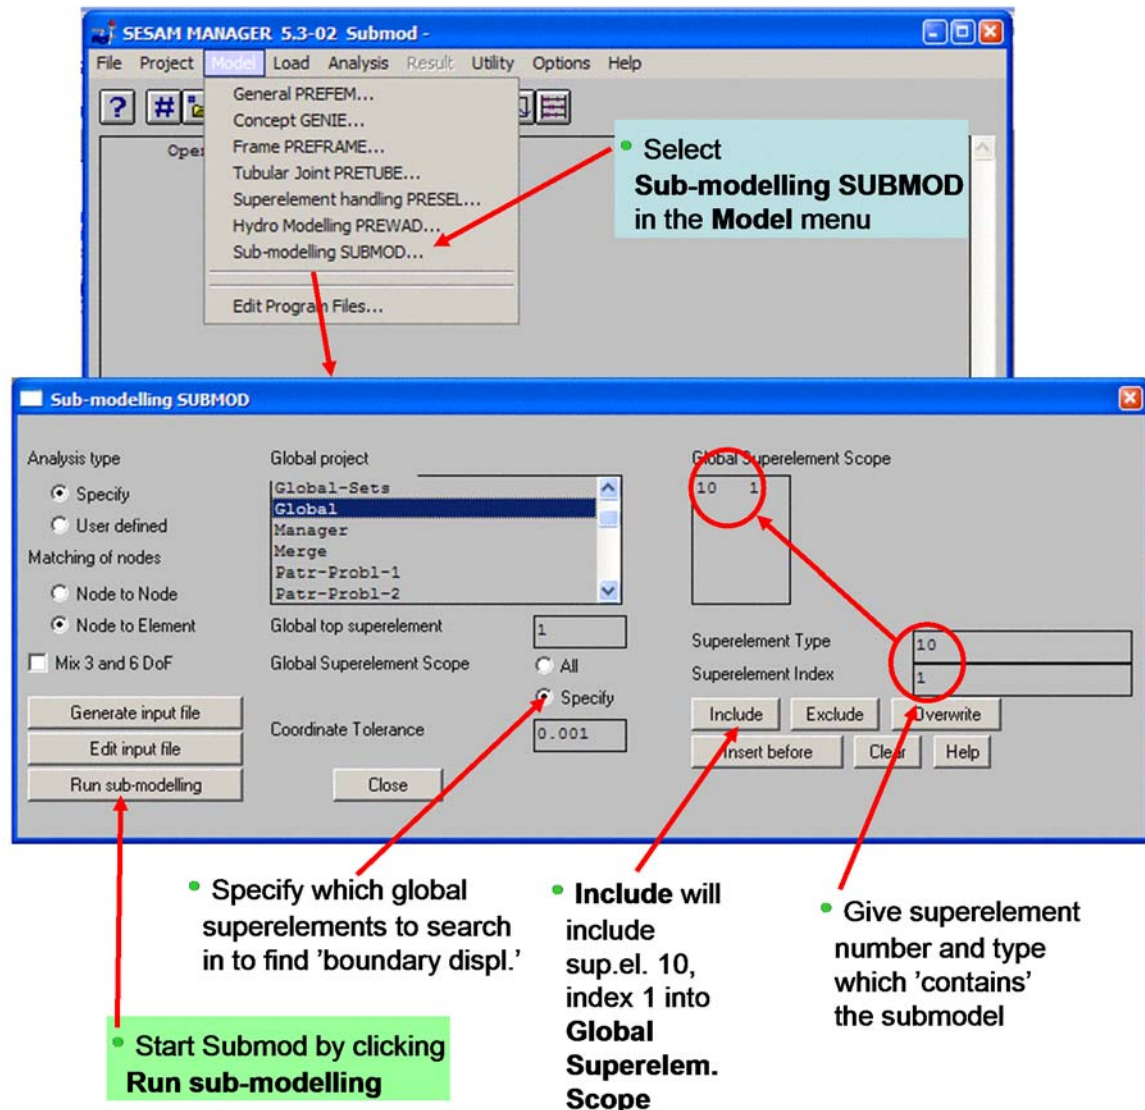

Figure 3.3 Details in Input of Global Superelement Scope ('Specify')
- (Figure 3.3) Select Global Superelement Scope number 10, index 1 as target in the global model for the geometric search for match of the boundary nodes from the sub-model.